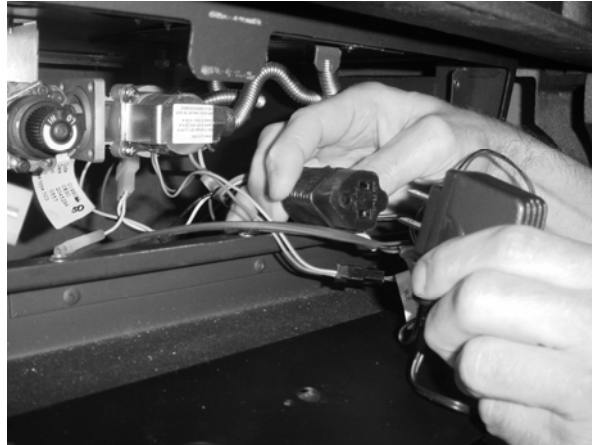

Figure 5
- 3 Unplug the ac adapter from the power harness (see Figure 5). You can leave the ac adapter plugged into the wiring harness.